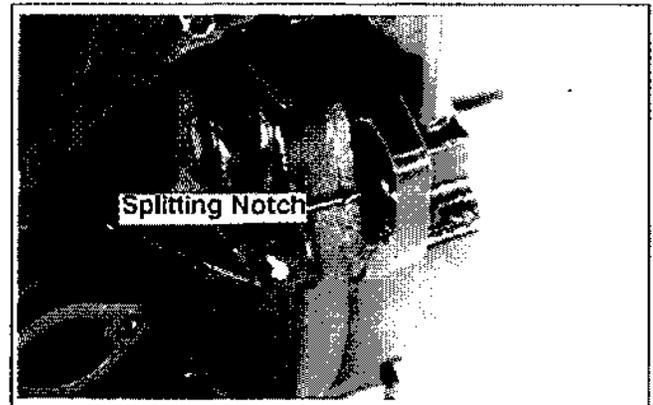

Figure 9-34. Splitting Notch of Closure Plate/Crankcase.
2. Locate the splitting notches in the seam of the closure plate and crankcase. See Figure 9-34. Pry the closure plate from the crankcase using a large flat-blade screwdriver.